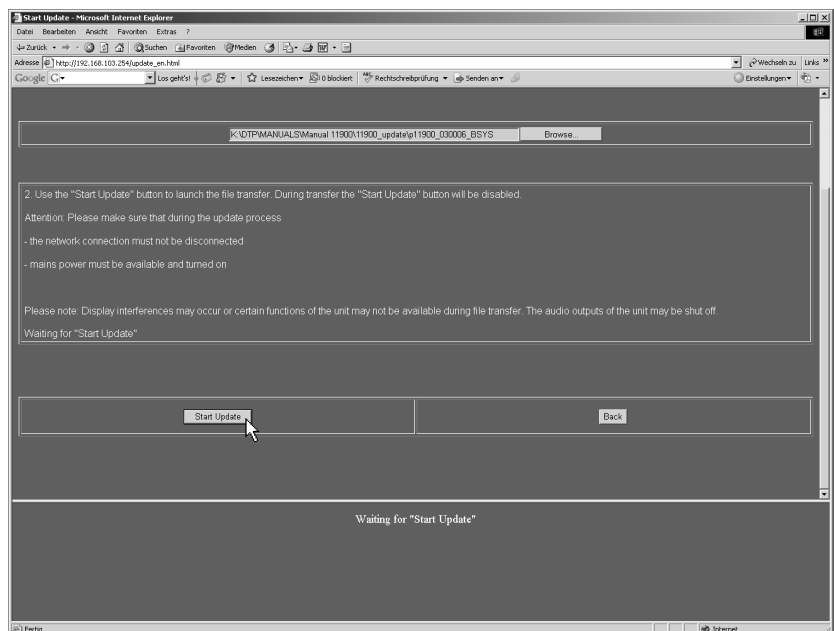

Fig. 8-6: Starting the update process with the selected update file
6. Press **Start update** to start the update process (see Fig. 8-6). **Please make sure that no interruption of the network access or supply power occurs during the download sequence.**